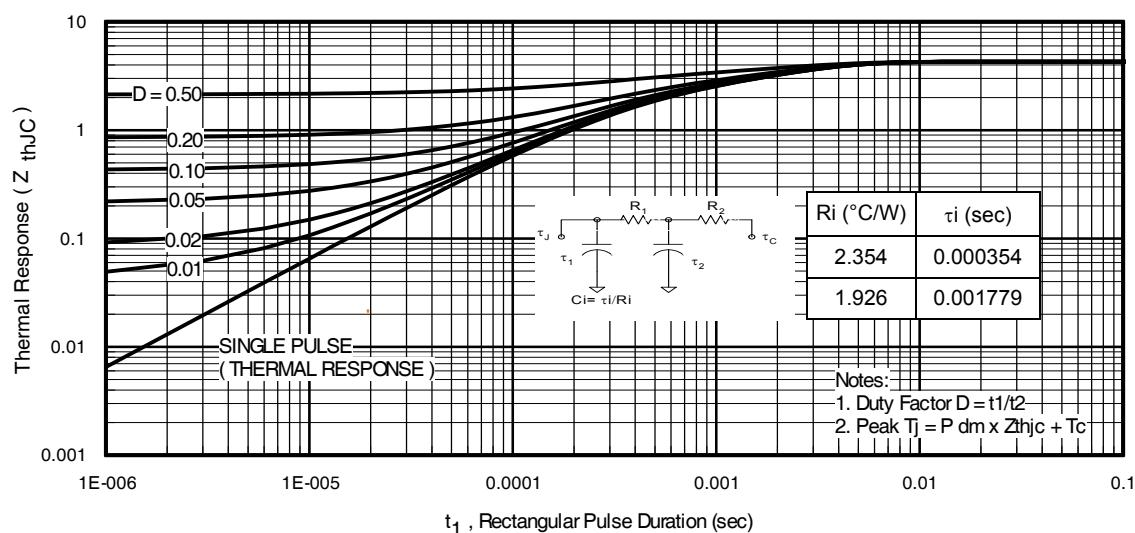
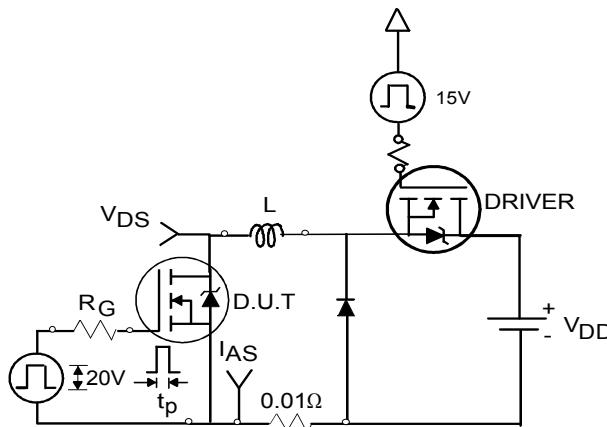

Fig 11. Maximum Effective Transient Thermal Impedance, Junction-to-Case
Fig 12a. Unclamped Inductive Test Circuit
- ① Repetitive rating; pulse width limited by max. junction temperature. (See fig. 11)
- ② Limited by $T_{J\max}$, starting $T_J = 25^\circ\text{C}$, $L = 0.54\text{mH}$, $R_G = 25\Omega$, $I_{AS} = 9.6\text{A}$, $V_{GS} = 10\text{V}$. Part not recommended for use above this value.
- ③ Pulse width $\leq 1.0\text{ms}$; duty cycle $\leq 2\%$.
- ④ $C_{oss\ eff.}$ is a fixed capacitance that gives the same charging time as C_{oss} while V_{DS} is rising from 0 to 80% V_{DSS}
- ⑤ Limited by $T_{J\max}$, see Fig.12a, 12b, 15, 16 for typical repetitive avalanche performance.
- ⑥ This value determined from sample failure population, starting $T_J = 25^\circ\text{C}$, $L = 0.54\text{mH}$, $R_G = 25\Omega$, $I_{AS} = 9.6\text{A}$, $V_{GS} = 10\text{V}$.
- ⑦ When mounted on 1" square PCB (FR-4 or G-10 Material). For recommended footprint and soldering techniques refer to application note #AN-994
- ⑧ R_θ is measured at T_J approximately 90°C .
3. Equation below based on circuit and waveforms shown in Figures 12a, 12b.